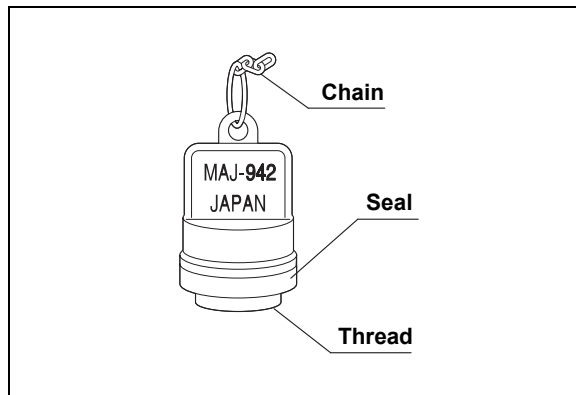

Figure 3.4
The water-resistant cap (MAJ-942) is attached to the UPD scope connector on the endoscope to protect the connector from water penetration during reprocessing. The water-resistant cap is connected to the endoscope by a chain (see Figure 3.4).
1. Confirm that the inside of the water-resistant cap is dry and free from debris (see Figure 3.4).